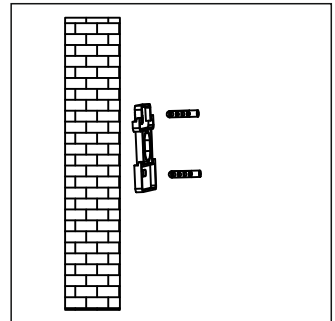

Fig.3
Step 2: Identify the location and direction of any hidden supply cables or service pipes before drilling fixing holes. Use the mounting kit and mark the position of the fixing holes (Fig.3). Ensure that the fitting is level and the wall is capable of holding the weight of the product.